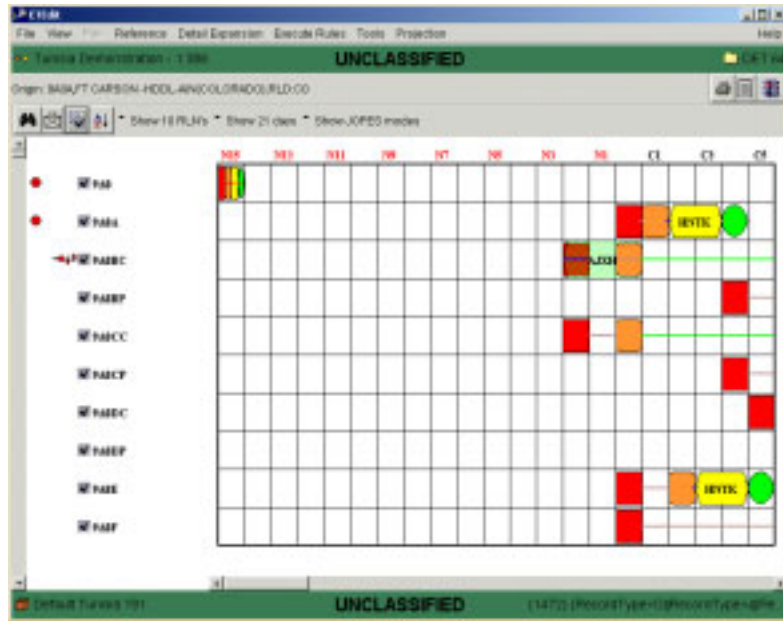

Figure 5.99 ETEdit (Main) Window
- Click OK. The Select RLN's window closes and the selected RLN(s) are displayed on the ETEdit (main) window (Figure 5.99).